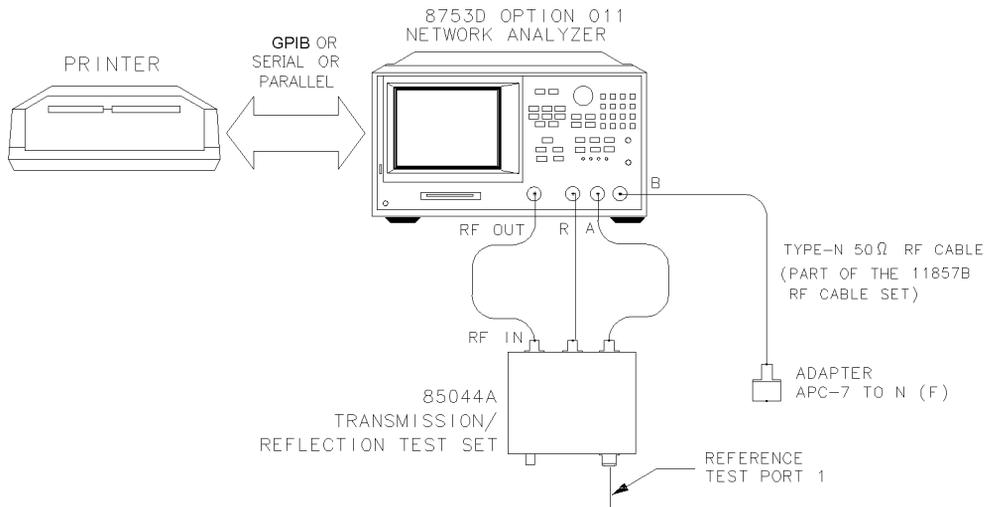

Figure 5-8. System Verification Test Setup
- 1 Connect the equipment as shown in Figure 5-8. Let the Agilent 8702D Option 011 warm up for one hour.